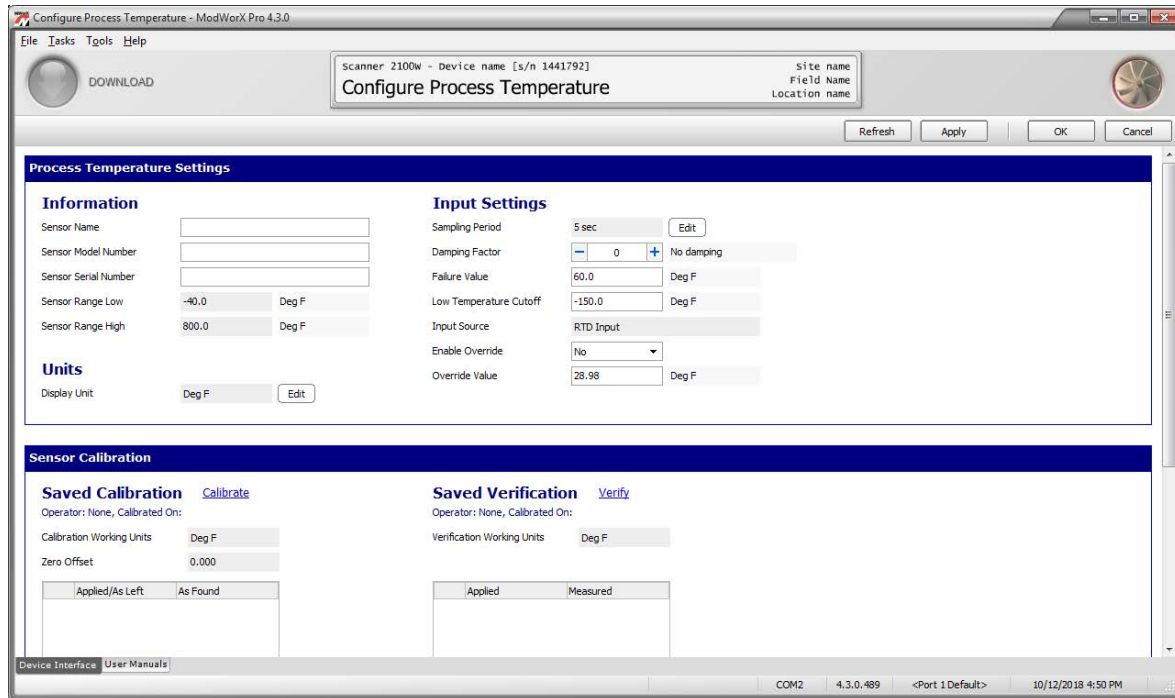
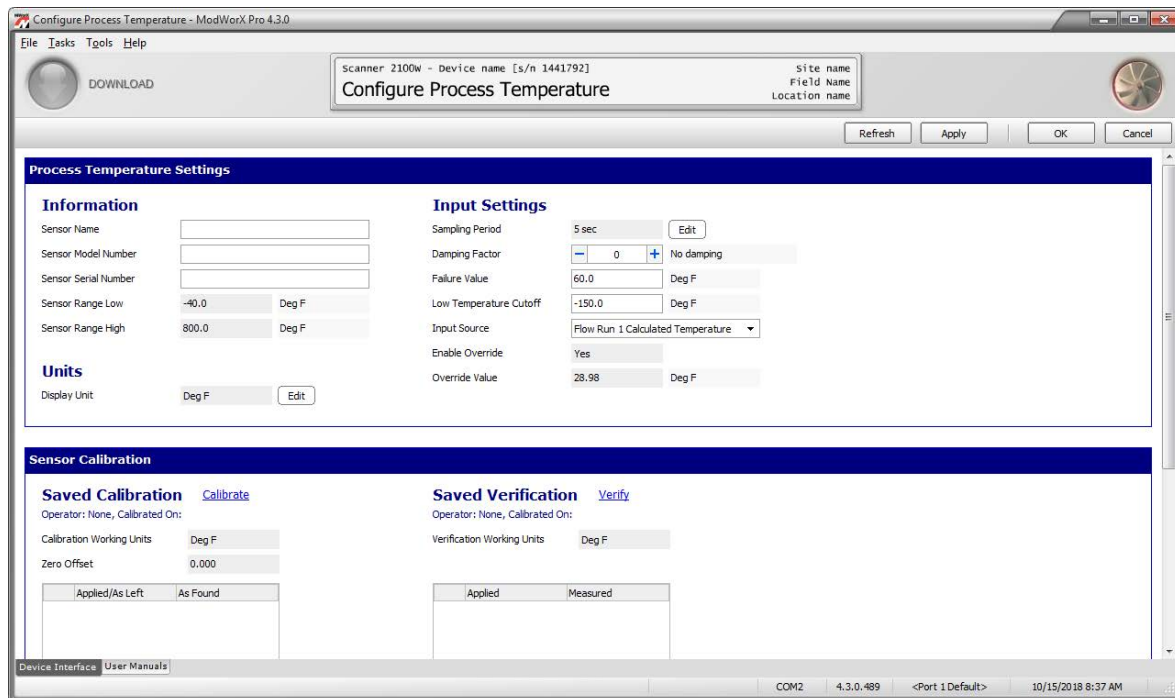

Figure 6.11
Figure 6.14
To configure a process temperature input, click on the **Process Temperature** button on the Configuration Menu screen. The Configure Process Temperature screen will appear (Figure 6.11).
- e. The input source allows the user to specify the temperature input logged. When the flow run is configured for gas measurement, the setting defaults to RTD and is not configurable (Figure 6.11, page 76). When the flow run is configured for steam measurement, the setting defaults to Flow Run 1 Calculated Temperature and the override settings below the Input Source field are automatically disabled (Figure 6.14). To log a different temperature input, change the Input Source to RTD.